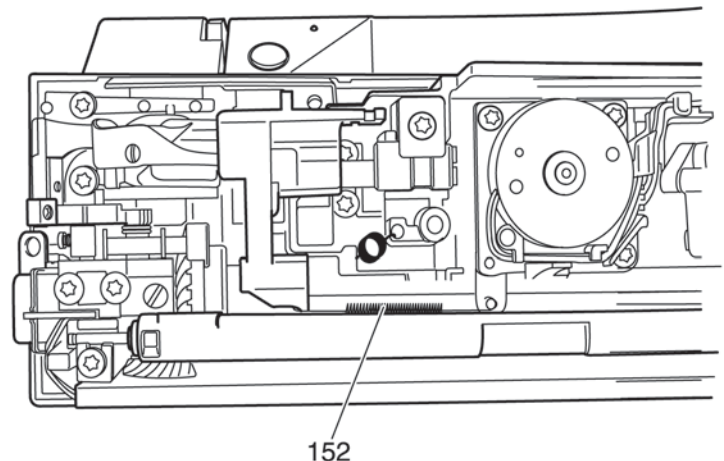

Fig. 42b
- Disconnect tension spring 152 of the transverse-feed stepping motor (fig. 42b).